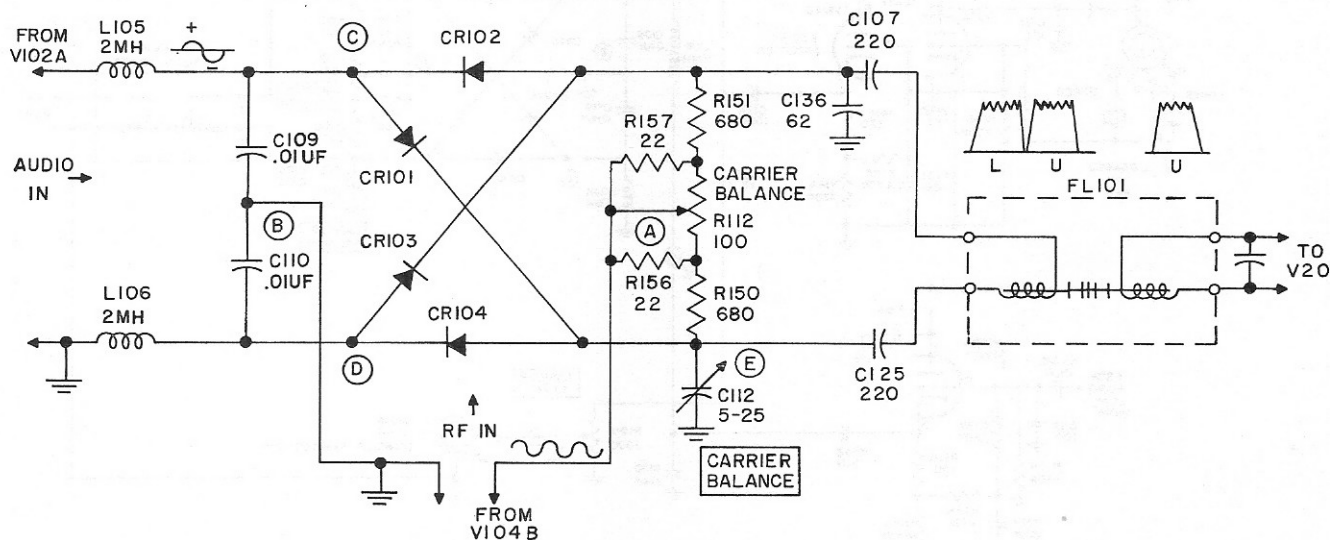
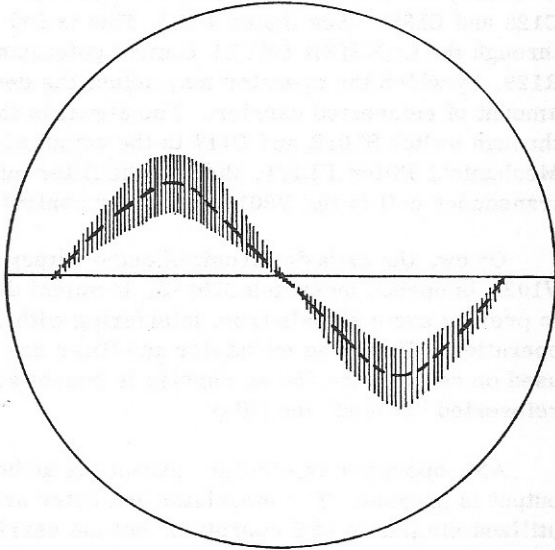

Figure 4-4. Balanced Modulator and FL101 Mechanical Filter, Simplified Schematic Diagram
Figure 4-5. Balanced Modulator Output, Typical Oscilloscope Pattern
(1) LFO. For the development of single sideband signals, the 250-kc output of V104A is coupled through condenser C130 into the grid of the 250-kc amplifier, V104B. The output of V104B is coupled from the cathode through C128 to point (A), and from the ground to point (B) of the balanced modulator, to provide an r-f input to the modulator. (See figure 4-4.)
(2) BALANCED MODULATOR. The balanced modulator is a "ring type" modulator. It receives two signal inputs, the 250-kc carrier signal at points (A) and (B) in figure 4-4, and the audio signal at points (C) and (D). The purpose of the modulator is to suppress the carrier frequency, and to pass only the upper and lower sideband frequencies resulting from modulation by the impressed audio. As shown by the component values, the modulator is a low impedance unit with two points of "balance" adjustment at points (A) and (E) in figure 4-4. R112 is adjusted for voltage balance, and C112 for capacity balance of the 250-kc r-f voltages applied.
Although the ring is balanced insofar as the r-f carrier voltage is concerned, the audio input essentially "modulates" the carrier by causing unbalance of the ring voltages at an audio rate, relative to the positive and negative alternations of the audio cycles. Thus, on one audio alternation, for example the CR101 plate is biased positive, causing its impedance to be lowered, while the CR102 cathode is biased positive, causing its impedance to be increased. On the following alternation, the impedance unbalance is the opposite. Thus, the carrier is "modulated" to produce two sidebands, but the carrier is suppressed by the ring balancing action. Assuming a 1000 cps audio note, the modulator output at the input of FL101 would be sideband frequencies of 249 kc and 251 kc, with the 250 kc carrier suppressed. (See figure 4-4.) R112 is adjusted to balance the inherent variations in R150 and R151.
Although figure 4-4 shows the modulator output in a practical "U and L" manner, the actual output waveform, when viewed on an oscilloscope, would be similar to figure 4-5, representing the 249-kc and 251-kc sideband signal plus the audio of the example stated in the preceding paragraph.
Within the filter, a nickel wire in the input transducer coil vibrates mechanically and transmits this energy to the first of a series of nickel alloy discs. The mechanical vibration of the first disc is coupled to succeeding discs by means of nickel-wire coupling elements. Biasing magnets at either end of the filter polarize the filter elements to prevent frequency doubling in much the same manner as biasing magnets in a headphone prevent the phone diaphragm from bending the same direction for both alternations of an a-c cycle. The mechanical vibration of the last disc is coupled to a magnetostriction transducer element identical to the one used at the input of the filter. By a reverse principle of magnetostriction, the mechanical vibrations of the nickel-wire transducer core is converted to electrical impulses. Each of the discs used has a mechanically resonant "Q" exceeding 2000. Six of the discs are overcoupled to produce a mechanically-shaped response curve with a flat top and almost vertical sides. Thus the filter passes a band of frequencies very little wider than the flat top of the selectivity curve. In the case of FL101 Mechanical Filter, this band of frequencies is approximately 3 kc wide and centers on 250 kcs. Figure 4-4 shows a practical example of the FL101 Mechanical Filter output wave containing all the USB frequencies however, on an oscilloscope, the